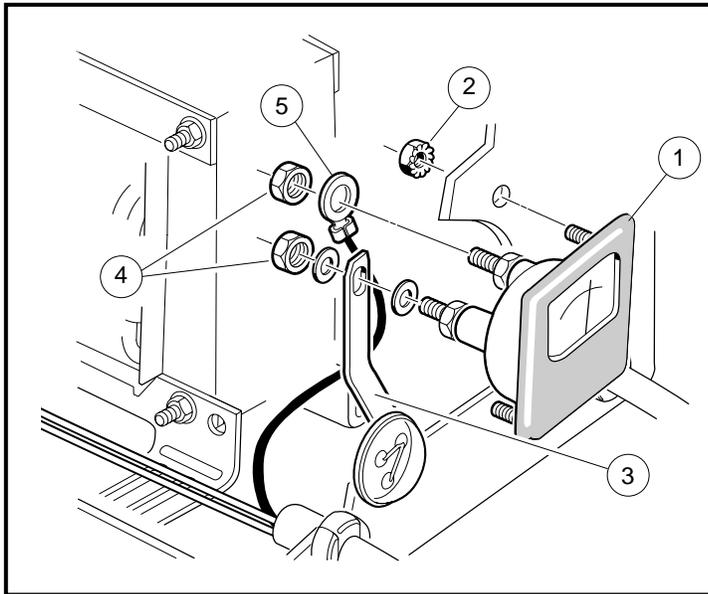

Figure 14-21 Ammeter Replacement
2. Disconnect black wire from the DC cord (5), and the bus bar (3) from the ammeter (**Figure 14-21, Page 14-22**).
- DO NOT ALLOW AMMETER POST TO ROTATE AS THE NUT (4) IS REMOVED. IF IT IS ALLOWED TO ROTATE, THE AMMETER COULD BE DAMAGED (**FIGURE 14-21, PAGE 14-22**).
3. Remove the two nuts (2) that secure the ammeter to the charger face (**Figure 14-21, Page 14-22**).
1. Place the ammeter in position in the charger face (**Figure 14-21, Page 14-22**).
2. Install nuts (2) and tighten until ammeter is firmly secured (**Figure 14-21, Page 14-22**).
3. Connect the black wire of the DC cord (5) to the left (as viewed from inside the charger) post of the ammeter (**Figure 14-21, Page 14-22**).
4. Connect the bus bar (3) from the fuse link to the right post of the ammeter. Place flat washers on both sides of the bus bar (**Figure 14-21, Page 14-22**).
5. Thread nuts onto both posts of ammeter until just past finger tight. While holding the outside nut, turn the inside nut counterclockwise 1/4 turn (**Figure 14-21, Page 14-22**). See following **CAUTION**.
- DO NOT ALLOW AMMETER POST TO ROTATE AS THE NUT (4) IS TIGHTENED. IF IT IS ALLOWED TO ROTATE, THE AMMETER COULD BE DAMAGED (**FIGURE 14-21, PAGE 14-22**).
3. Remove both secondary transformer leads and the bus bar from the back of the fuse link assembly (**Figure 14-21, Page 14-22**).
2. Install the bus bar over the center branch of the fuse assembly and ammeter post (**Figure 14-21, Page 14-22**). Tighten to 27 in.lb (3.0 N-m).
3. Install a secondary transformer lead (black) onto one of the two remaining terminals on the back of the fuse assembly. Install the remaining secondary transformer lead (black) onto the remaining terminal (**Figure 14-21, Page 14-22**). Tighten to 27 in.lb (3.0 N-m).